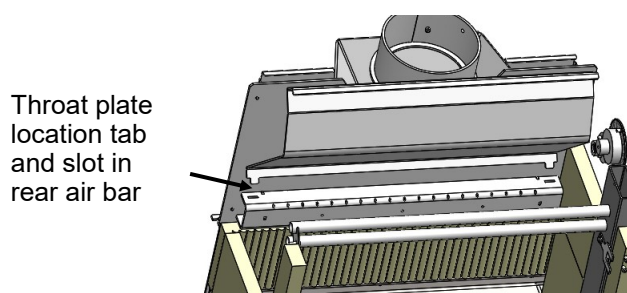

Fig 4
- Lift the throat plate into position with the front above the perforated air tube. Align the 2 tabs on the throat plate with the location slots in the rear air bar and drop into position (See Fig 4)